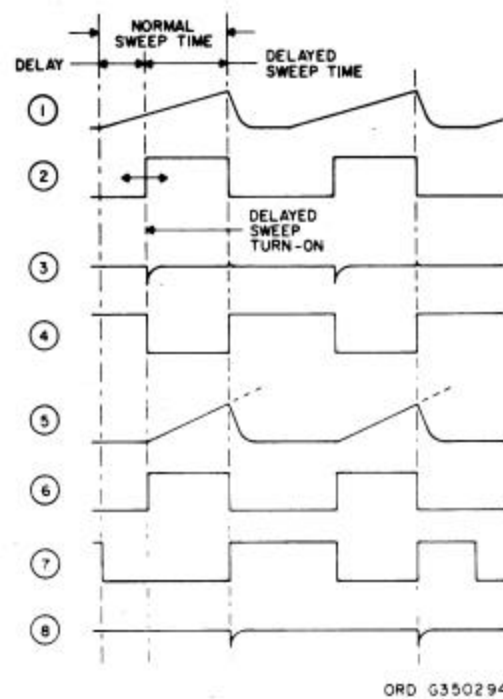

Figure 3-9. Triggered-strobe mode waveforms.
(15) Let's briefly summarize the detailed description of the triggered-strobe mode, using the waveforms in figure 3-9. The first waveform shows the output of the normal sawtooth generator that goes to the horizontal deflection amplifier and the comparator stage in the delay trigger pick-off circuit. After comparing the normal sawtooth with a fixed voltage determined by the DELAY VERNIER control, the comparator produces a squared output (waveform 2) which is a result of the tunnel diode action. Waveform 3 shows the inverted-differentiated output of the differentiating amplifier that is applied to the delayed-sweep gate multivibrator after it passes through a pulse transformer and a diode.